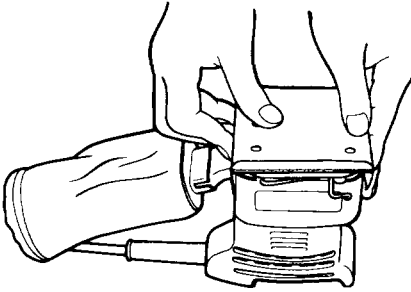

Fig. 8
- Position the sander with its pad side facing upward as shown in Fig. 8. Place the sanding paper on the pad so that the center of the sanding paper is aligned with the center of the pad, and bend both ends of the sanding paper at a 90° angle.